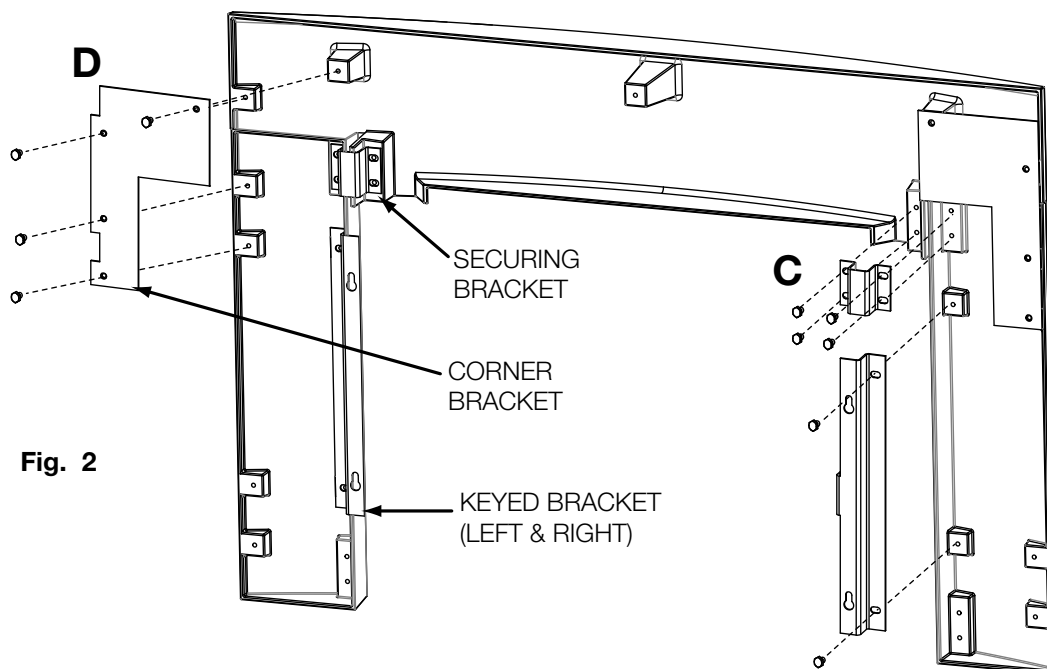

Fig. 2
- E. Lift the casting, place the screws into the retaining brackets, and tighten fully (**Fig 2, D**).
- C. Place the casting pieces face down on a protected surface and assemble as shown (**Fig. 2**).
- D. Fasten the securing brackets using the screws (**Fig. 2, C**).
- E. Secure the corner brackets into place on both sides of the casting using the screws (**Fig. 2, D**).
- F. Lift the casting, place the keyed holes onto the 1/4-20 round head screws, and rest the casting into place (**Fig. 2**). Adjust screws as necessary to stabilize.